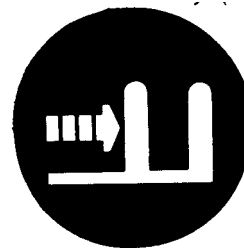

Figure 1-10.
3. Pulling the mast shift control lever towards the operator produces a right hand shifting action of the mast assembly. Pushing of the mast shift control lever away from the operator produces a left hand shifting action of the mast assembly. (Figure 1-10).